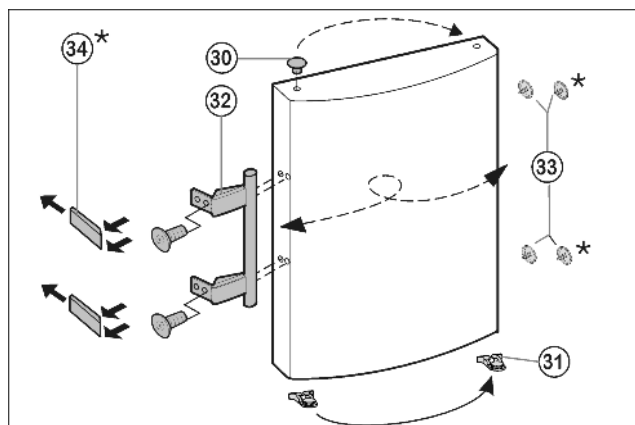

Fig. 8
- ▶ Lift the stopper *Fig. 8 (33)* out of the door bearing bush and transfer it.
- ▶ Dismantle the door handle *Fig. 8 (32)*, stoppers *Fig. 8 (33)* and pressure plates\* *Fig. 8 (34)* and transfer to the opposite side.